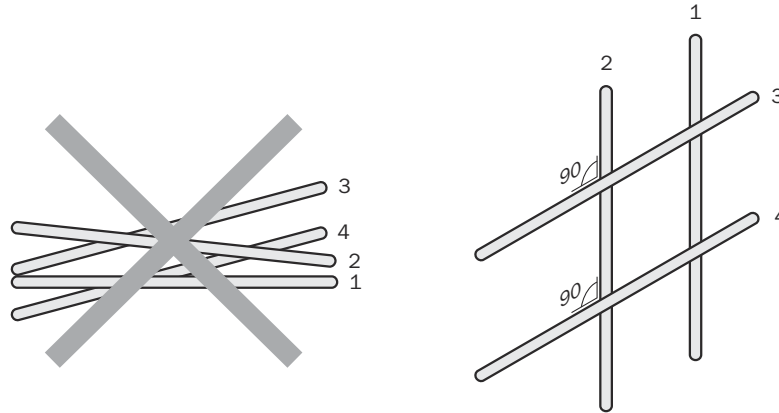

Figure 8: Cross cables at right angles
- Cables in groups 1, 2 and 3, 4 must be crossed at right angles (see figure 8).